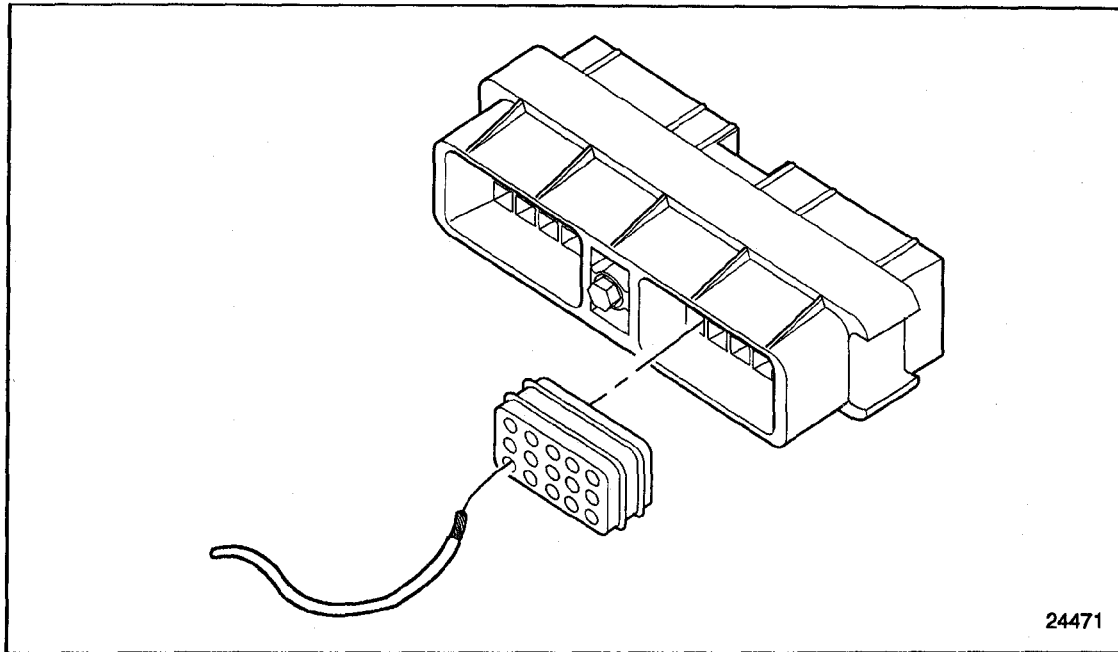

Figure 8-30 **Inserting Wire Connector**
1. Push the cable through the correct cavity of the seal and connector. See Figure 8-30.